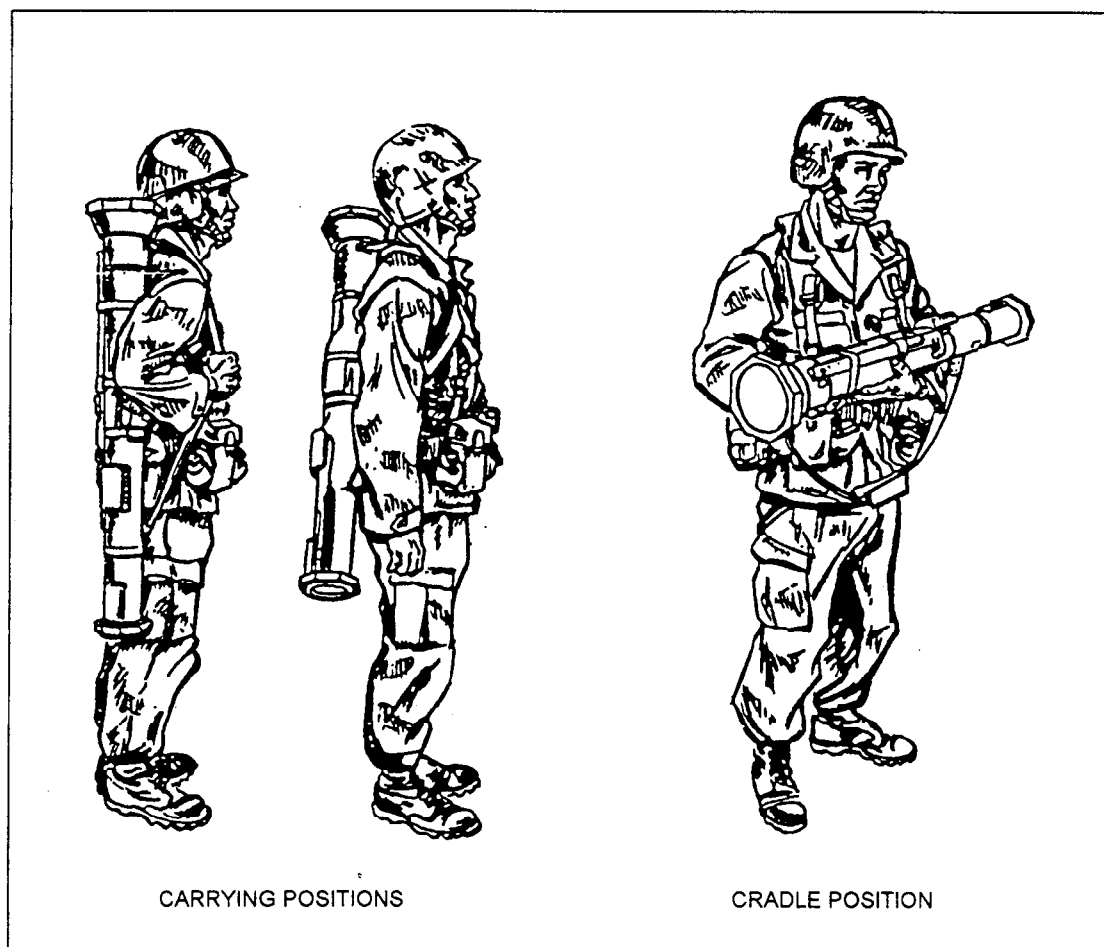

Figure 14-30.—Carrying and cradle positions.
- Remove the launcher from the carrying position and cradle it in your left arm (fig. 14-30).